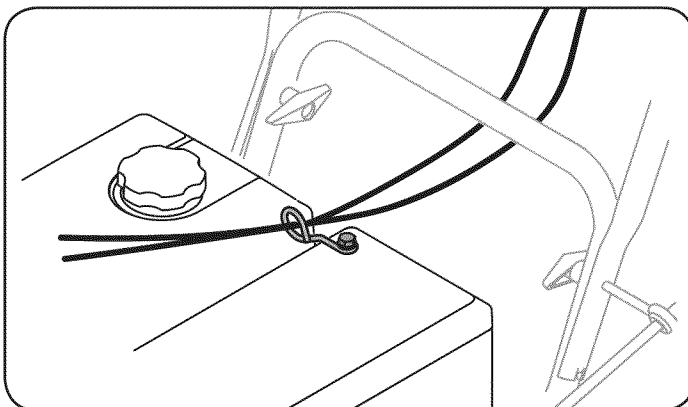

Figure 6
6. Check that the chute cables are properly routed through the cable guide on top of engine shroud. See Figure 6.